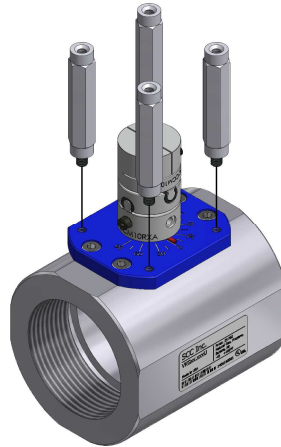

Figure 3: Standoff Installation
- Place a small amount of red Loctite on the end of each of the (4) M6 x 22mm socket set screws. Using a 3mm hex key, fasten each socket set screw into one end of a hex standoff until the screw bottoms out. By hand, thread each standoff into one of the four M6 threaded holes on the top of the blue dial of the VKG... valve as shown in Figure 3. Using the ½" open end wrench (or crescent wrench), tighten each standoff against the dial.